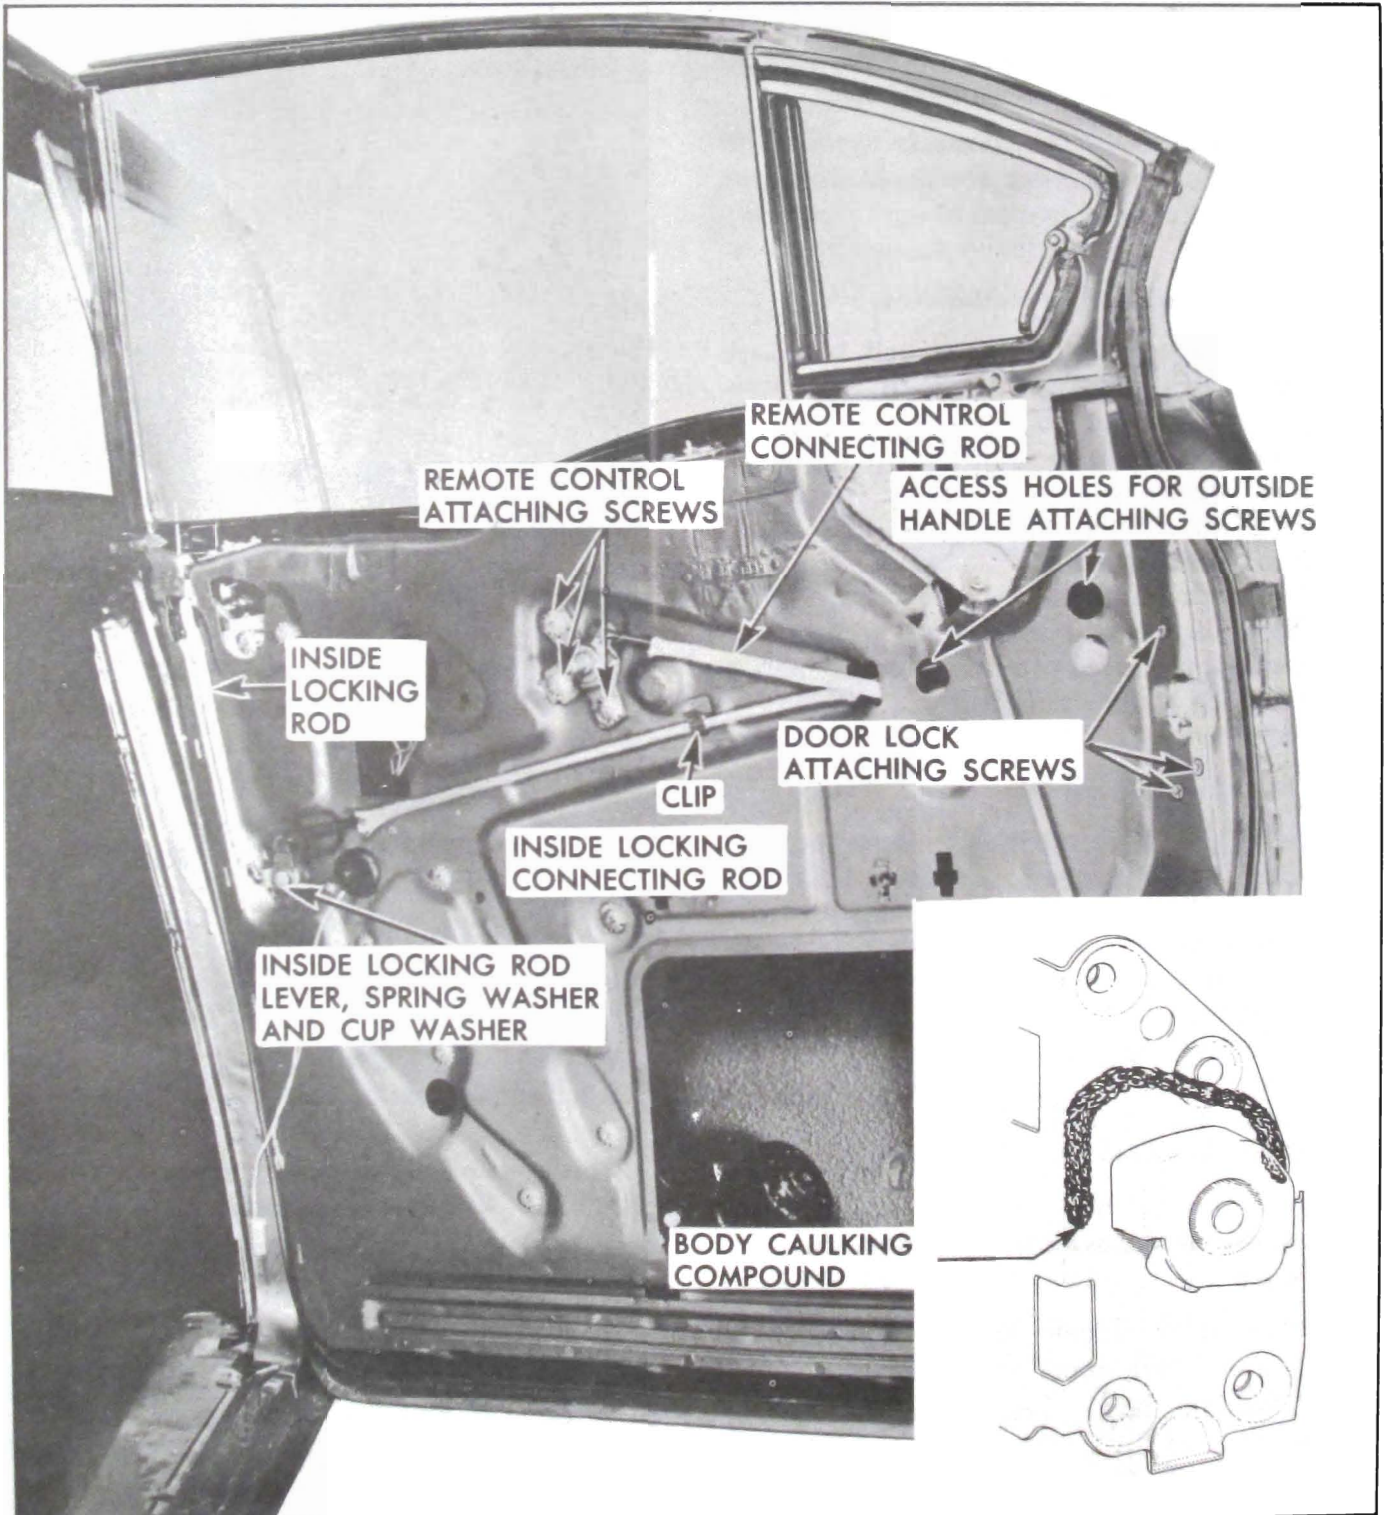

Figure 13-218—Rear Door Lock Mechanisms
(figure 13-218) and remove lock from door through access hole.
4. To install door lock, reverse removal procedure. Prior to installation of lock, apply a ribbon of body caulking compound (approximately $\frac{1}{4}$ inch in diameter) across face of lock frame approximately $\frac{3}{4}$ inch above rotary bolt housing, as indicated in figure 13-218.
1. Raise door window. Remove door trim assembly and detach upper portion of inner panel water deflector sufficiently to gain access to remote control attaching screws. See figure 13-218.
3. To remove remote control connecting rod, remove door inner panel water deflector. Through inner panel access hole disengage spring clip at "C" (figure 13-218) and detach connecting rod from lock.
6. Loosen remote control attaching screws. See figure 13-218. Move remote control to forward position; then adjust remote control rearward sufficiently to take up slack in linkage.
3. Through access holes for handle attaching screws (figure 13-218), remove attaching screws and remove handle with attached push button connecting rod from door.
2. Remove inside locking rod lever attaching screw, spring washer and cup washer. See figure 13-218. Pull locking rod lever from inner panel sufficiently to detach inside locking rod from lever.